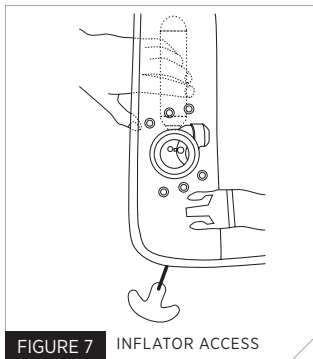

FIGURE 7 INFLATOR ACCESS
- 1) Place the life jacket on a smooth, flat surface and wipe off any water. Access the inflator by reaching under the cover (Fig. 7) and pulling the yellow cap toward you, turning the cell and cover inside-out completely to fully expose the inflator for re-arming. Hold the CO₂ cylinder through the fabric, using one hand.